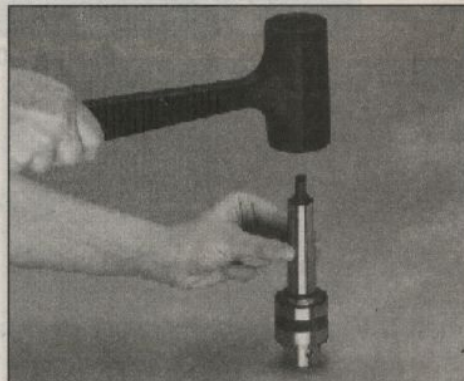

Figure 9
3. Place the drill chuck on a workbench face down. The arbor has a short taper and a long taper. Place the short taper into the socket in the back of the drill chuck and tap with a rubber or wooden mallet as shown in **Figure 9**. If the chuck fails to remain secure on the arbor, repeat **step 1 and 2**.